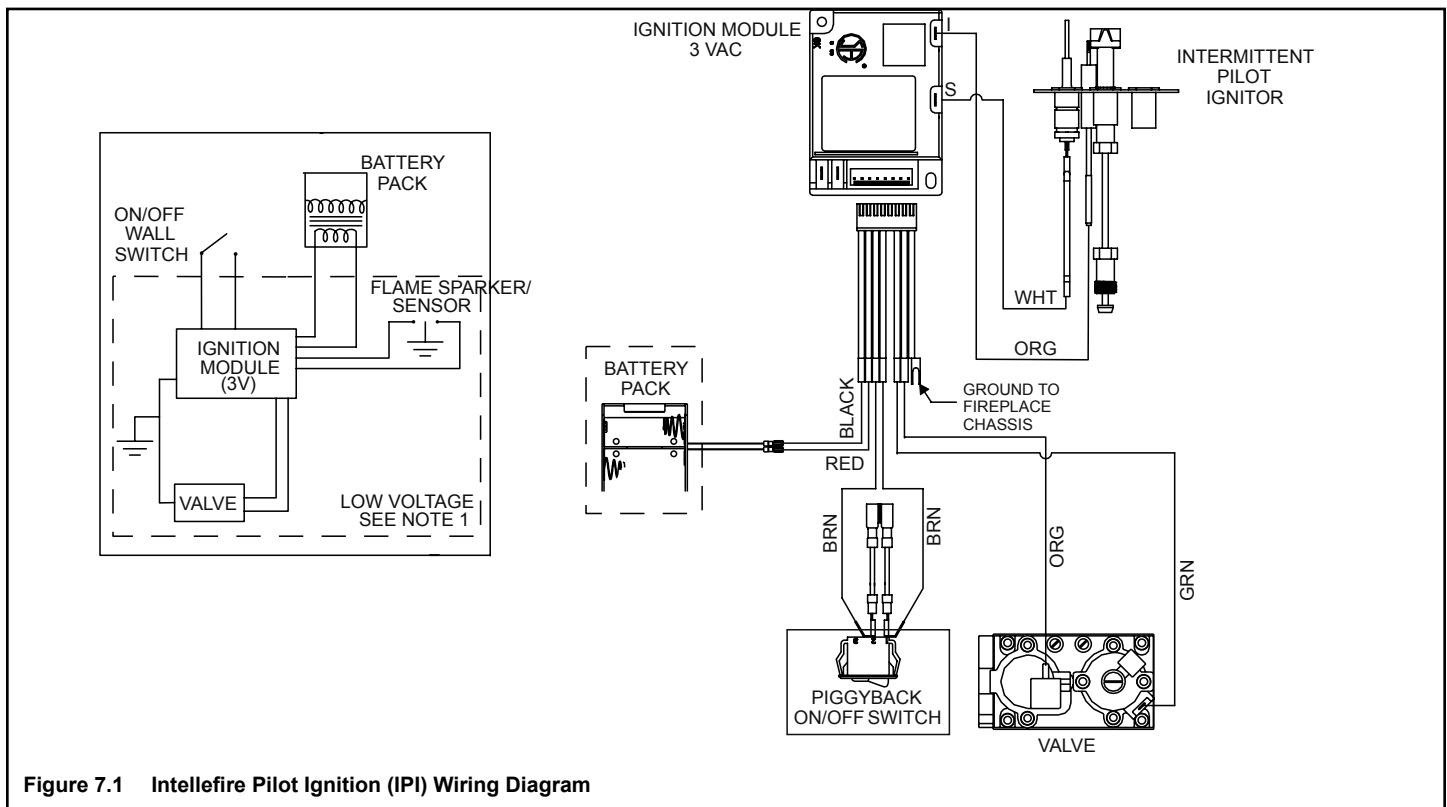

Figure 7.1 Intellifire Pilot Ignition (IPI) Wiring Diagram
- This appliance is supplied with a battery pack which is located in the ON/OFF switch terminal box. A wiring diagram is shown in Figure 7.1.